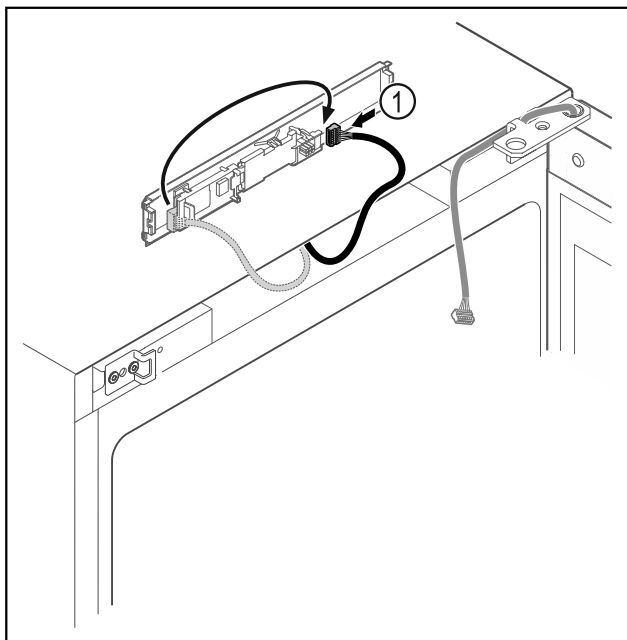

Fig. 21
- ▶ Connect the plug Fig. 21 (1) to the circuit board.